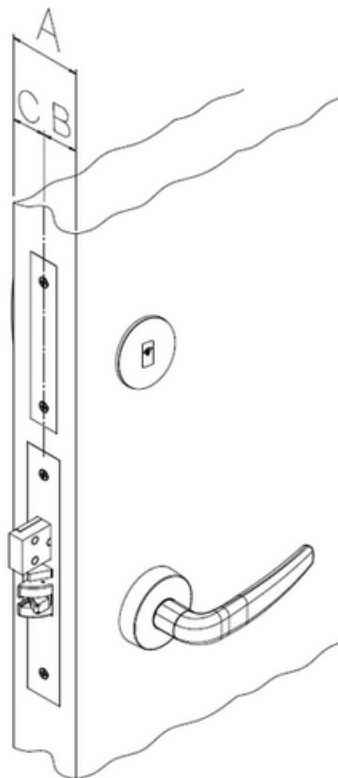
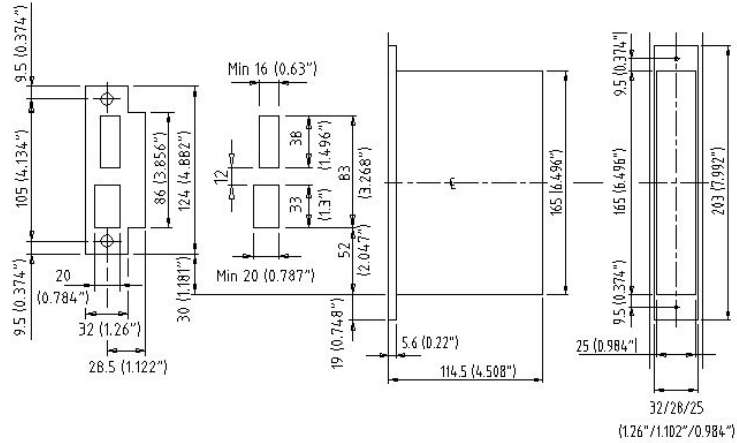

Figure 2: A-, B- and C-dimensions
Figure 7: Positioning of ANSI (DA) standard striker plate.
Figure 7 above shows the lock case center line (CL); see dot and dash line through the figure above. The CL is important for the positioning of the lock case, striker plate and escutcheon onto the doors.
The striker plate is positioned in the frame so that the bottom of the striker plate is 30 mm (1.18") above the bottom of the lock case; see Figure 7. Horizontally, the B- or C-dimension (see Figure 2) will apply depending on the direction of the door and the center/rebate orientation.